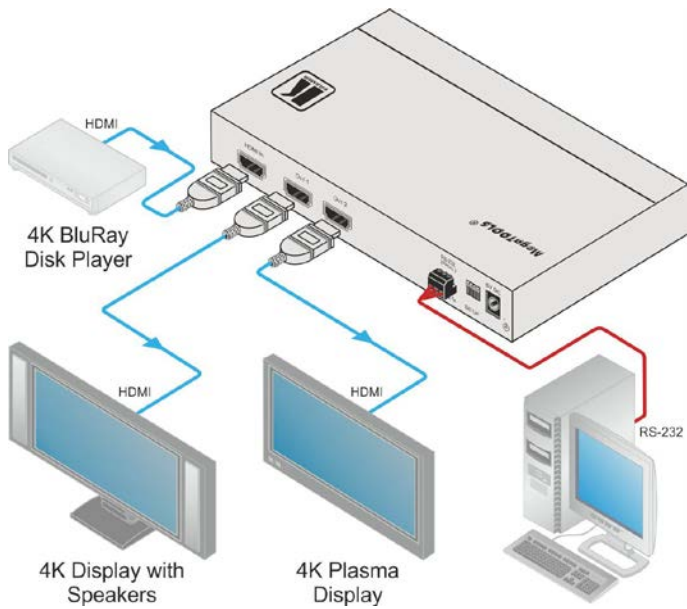

Figure 2: Connecting the VM-2H2 4K HDMI 2.0 1:2 DA
To connect the **VM-2H2**, as illustrated in the example in Figure 2, do the following:
3. Connect the 5V DC power adapter to the power socket unit and then connect the adapter to the mains electricity (not shown in Figure 2). See Section 3.3 for the state of the LED indicators during and after powering on.